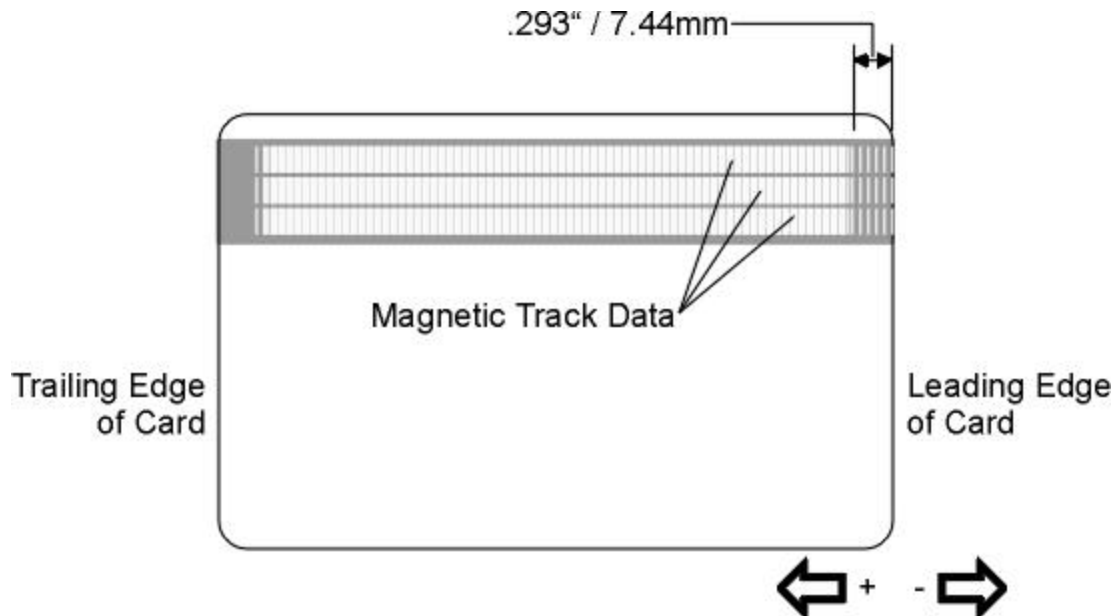

Figure 7-11
1. If using a magnetic viewer or developer solution or spray to make the magnetic data visible, the Start Sentinel can be identified as the first set of magnetic lines (first one-bit) which are visibly closer together than the large number of evenly spaced lines (leading zero-bits) that fill the space to the edge of the card. See Figure 7-11. A magnifying device with a built-in measuring scale makes this easier to measure.
2. Measure the distance from the edge of the card to the Start Sentinel in the data as seen in Figure 7-11.